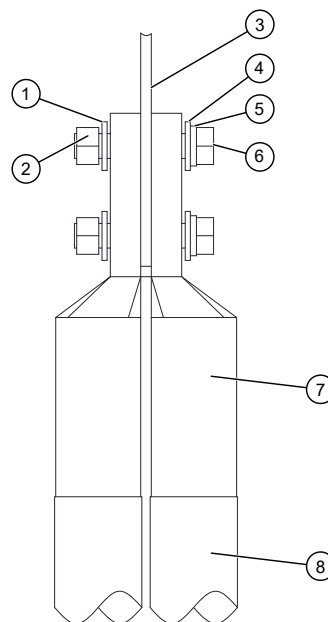

Fig. 3-10 Connection of DC Input Cable
- Please confirm the number of DC input channels, select an appropriate cable diameter, then fix the wiring terminal on the copper bar according to the connection method shown in Fig. 3-10, and lock it with a torque wrench (torque: 25Nm).